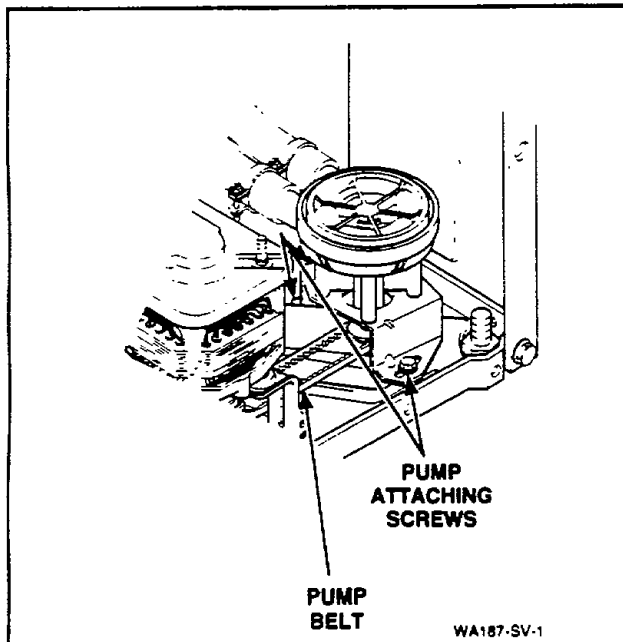

Figure 28
- Remove the front mounting screw and loosen the rear mounting screw holding the pump and the bracket to the washer base, *Figure 28*. Pivot entire assembly toward motor to loosen belt tension.
- c. Remove front mounting screw and loosen the rear mounting screw holding pump and bracket to washer base, *Figure 28*. Pivot the entire assembly toward motor to loosen belt tension.